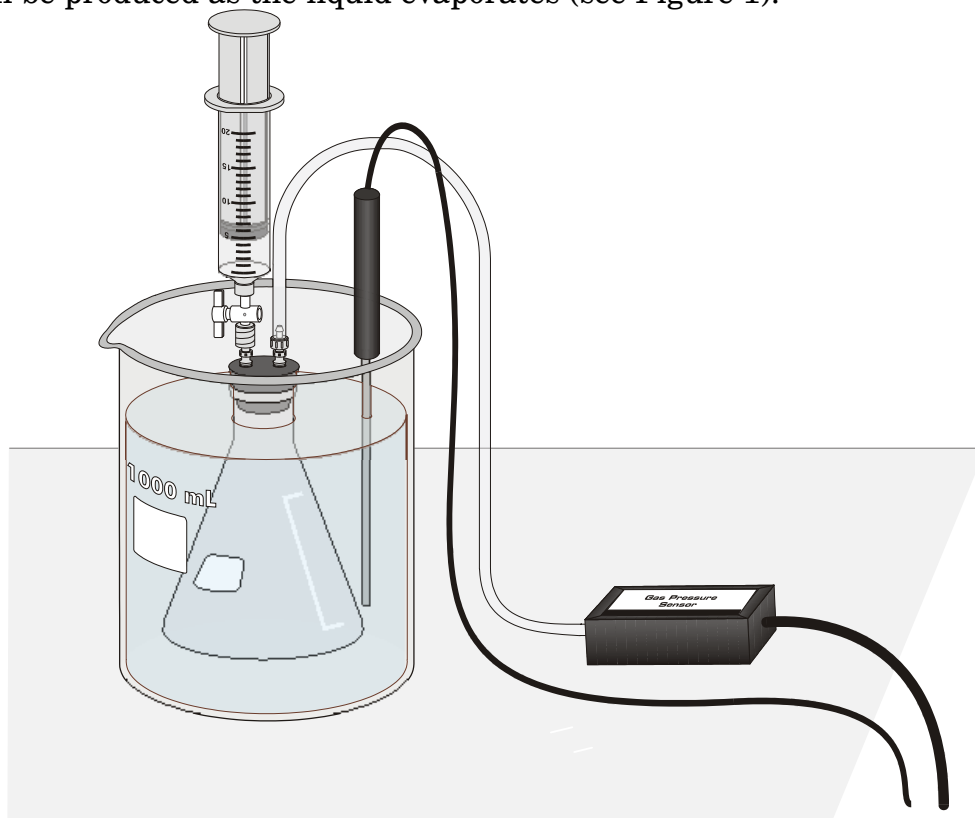

Figure 1
- 3.) Use the clear tubing to connect the white rubber stopper to the Gas Pressure Sensor. (About one-half turn of the fittings will secure the tubing tightly.) Twist the white stopper snugly into the neck of the Erlenmeyer flask to avoid losing any of the gas that will be produced as the liquid evaporates (see Figure 1).
7.) Obtain a small amount of ethanol. Draw 3 mL of ethanol into the 20 mL syringe. Thread the syringe onto the two-way valve on the white stopper (see Figure 1).